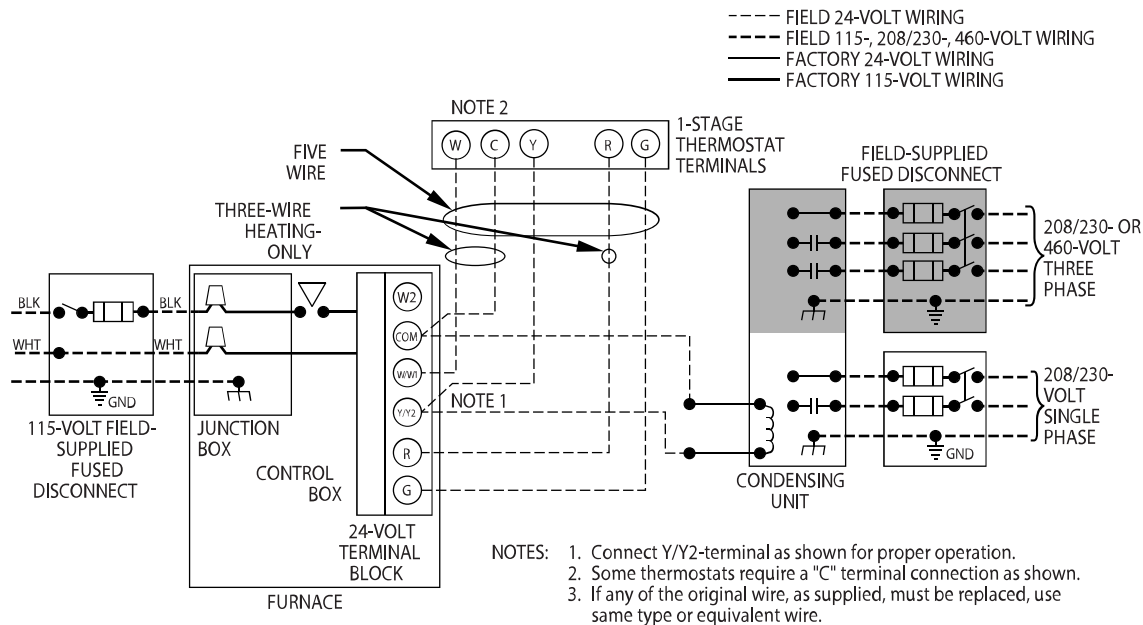

Fig. 23 – Heating and Cooling Application Field Wiring Diagram
See Fig. 23 for field wiring diagram showing typical field 115V wiring. Check all factory and field electrical connections for tightness.
- Complete electrical box wiring and installation. Connect line voltage leads, see Fig. 23. Use best practices (NEC in U.S. for wire bushings, strain relief, etc.)
- Connect line voltage leads, see Fig. 23.
Make field 24V connections at the 24V terminal strip, see Fig. 23. Connect terminal Y as shown in Fig. 42 for proper cooling operation. Use only AWG No. 18, color-coded, copper thermostat wire.